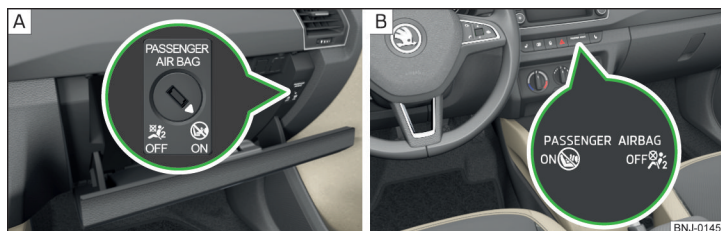

Fig. 12 Key-operated switch for the front passenger airbag / warning light for front seat passenger airbag deactivation
- The indicator light  under the text **PASSENGERAIRBAG** » Fig. 12 on page 21-
- Use the key to turn the slot of the key switch carefully into the position **OFF** » Fig. 12 - **A**.
- Check that the warning light **OFF** in the text **PASSENGER AIR BAG** » Fig. 12 - **B** lights up after the ignition is switched on.
- Use the key to turn the slot of the key switch carefully into the position **ON** » Fig. 12 - **A**.
- Check that the warning light **ON** in the text **PASSENGER AIR BAG** » Fig. 12 - **B** lights up after the ignition is switched on.